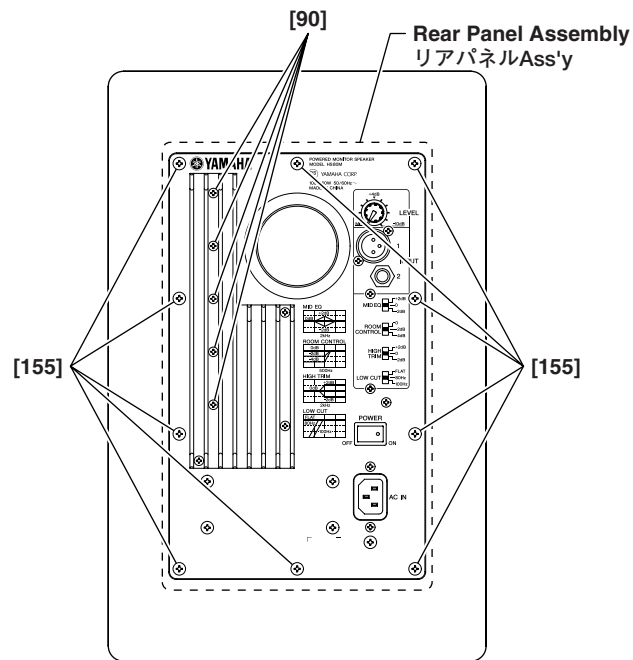

Fig. 2 (図2)
Remove the ten (10) screws marked [155]. The rear panel assembly can then be removed. (Fig. 2)
- 4-2 Remove the five (5) screws marked [90]. The AMP unit can then be removed. (Fig. 2)
[155]のネジを10本外し、リアパネルAss'yを外します。(図2)
- 4-2 [90]のネジを5本外し、AMPユニットを外します。(図2)